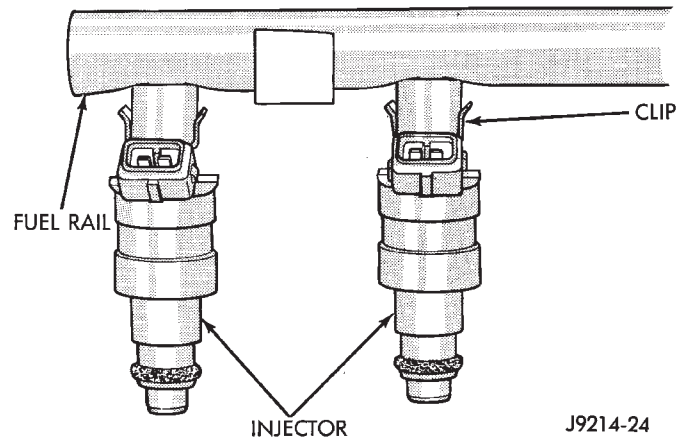
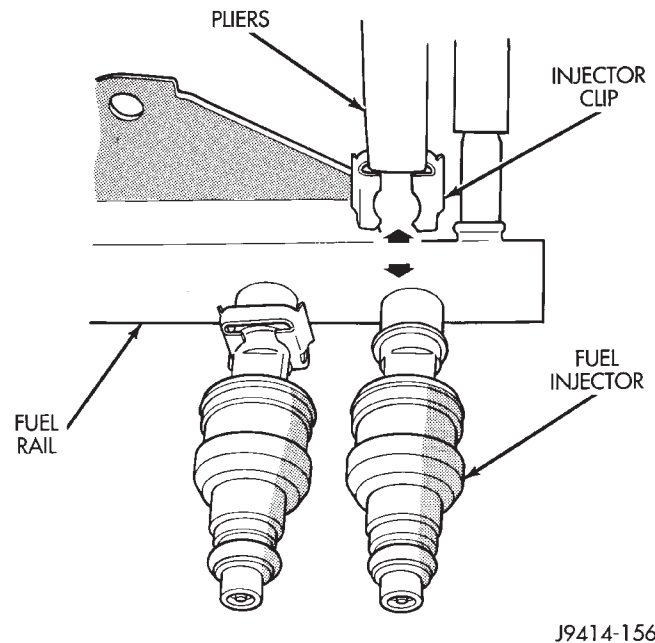

Fig. 33 Fuel Injector Mounting—Typical
Fig. 34 Injector Retaining Clips—Typical Injector
(9) Gently rock and pull the **left** fuel rail until the fuel injectors just start to clear the intake manifold. Gently rock and pull the **right** fuel rail until the fuel injectors just start to clear the intake manifold. Repeat this procedure (left/right) until all fuel injectors have cleared the intake manifold.
(10) Remove fuel rail (with injectors attached) from engine.
(11) Remove the clip(s) retaining the injector(s) to fuel rail (Fig. 33) or (Fig. 34).
- (3) Remove the clip(s) retaining the injector(s) to fuel rail (Fig. 33) or (Fig. 34).
- (4) Remove injector(s) from fuel rail.